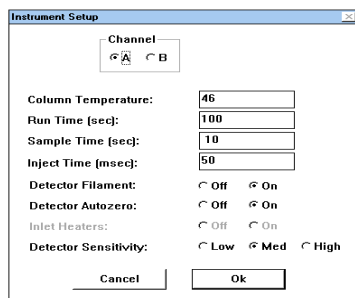

Figure 22 Instrument setup window
2. Select the **Instrument Setup** command under the **Method** menu. A window will be displayed which lists the chromatograph instrument settings from the last stored Method (See Figure 22).
3. Increase the temperature settings by 10 degrees for channels A and B. To do this, click on channel A in the instrument setup window shown in Figure 22. Instrument settings for channel A should appear on the screen. Click on the "Column Temperature" box and enter a value 10 degrees higher than that shown. The settings for channel B are displayed by clicking the cursor in the small circle labeled B at the top of the instrument status window.